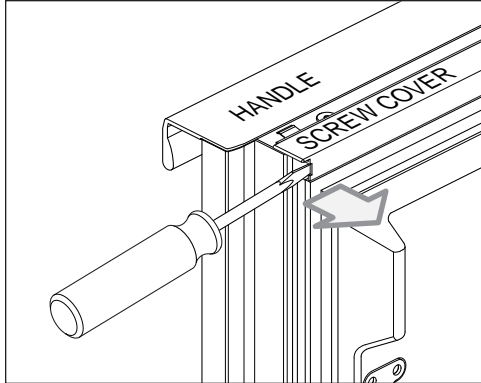

Figure 2-17A. Screw Cover Removal with Handle
1. At the back right-hand side of the drawer handle or handle-side trim, insert a flat blade screwdriver into the notch in the screw cover and pry the cover away from the handle or handle-side trim, disengaging the screw cover from the clips (See Figures 2-17A and 2-17B).